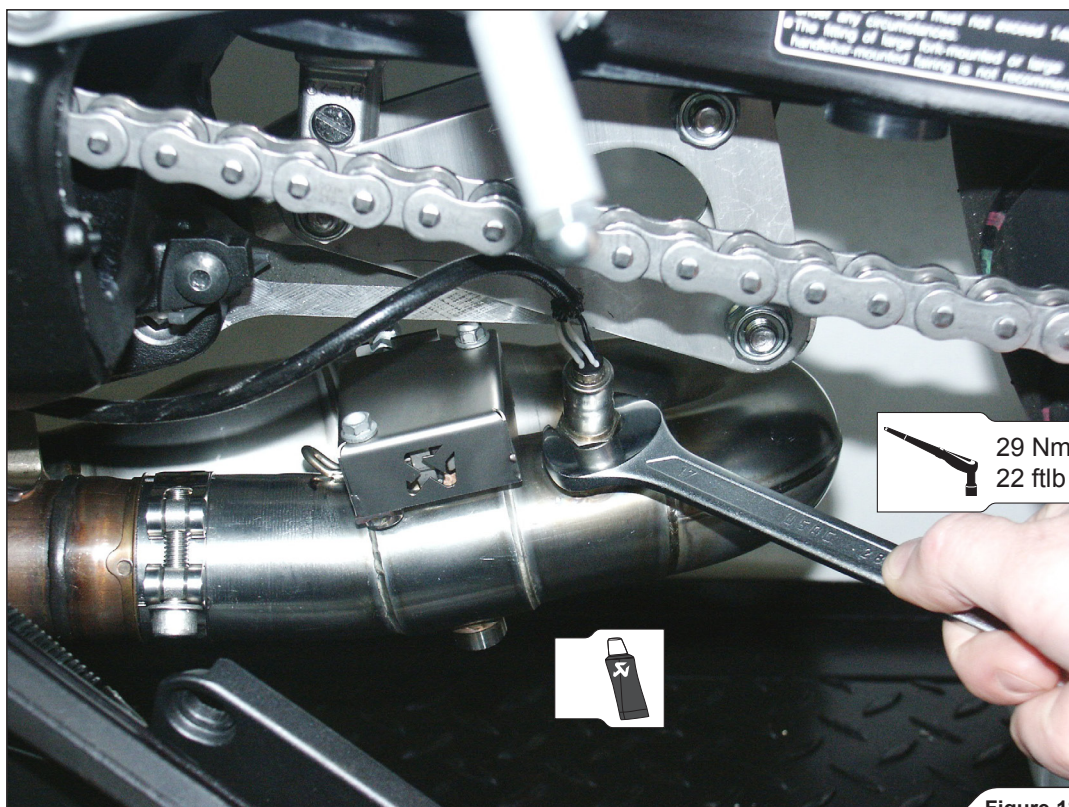

Figure 18
7. Tighten the lambda sensor; make sure not to damage the sensor's electrical lead (Figure 18).